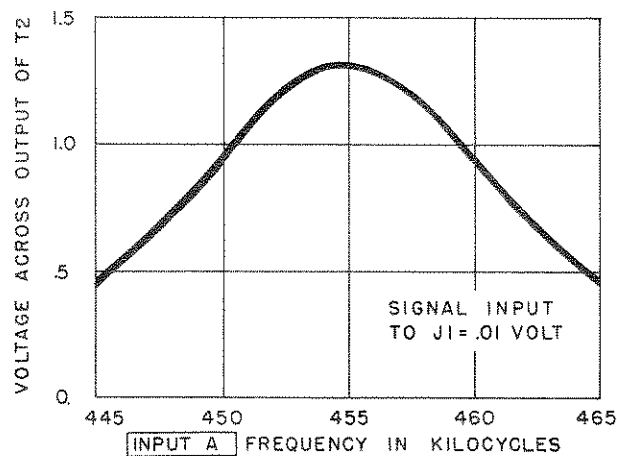

Figure 54. Channel A rf amplifier response curve.
d. Repeat the test described in *c* above for frequencies 10 kc above and below the frequency normally fed to INPUT A. The meter B readings at pin 7 of V3 should be approximately 0.45 volt ac. The response should be close to that shown by the curve in figure 54.
e. Repeat the tests described in *a* through *d* above on channel B. Connect electronic multimeter B to the grid (pin 7) of V29 and the rf signal generator to INPUT B. Again, observe that the response of the rf amplifier is close to that shown in figure 54.